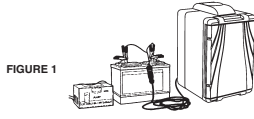

FIGURE 1
2. A 12-Volt (6 to 10 AMPERE AUTOMATIC) or a 12-Volt (6 AMPERE NONAUTOMATIC) battery charger connected to a 12-Volt battery, see figure 1.